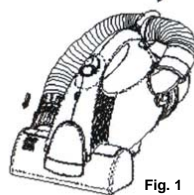

Fig. 1
- Insert the dusting brush/hose connector into the brush chamber exhaust port. Lock the flexible hose in place by clipping the hose into the hose holder. (Fig. 1)